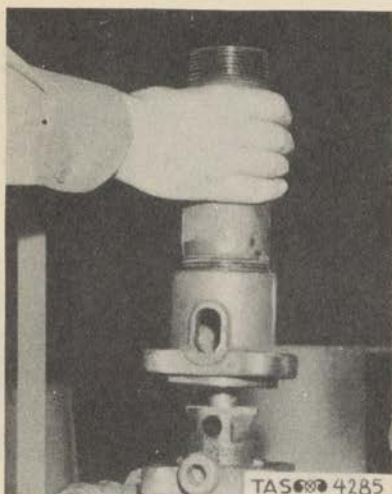

Figure 276. Removal of
(8) Remove the upper head and the spring retaining tube. (Fig. 276)